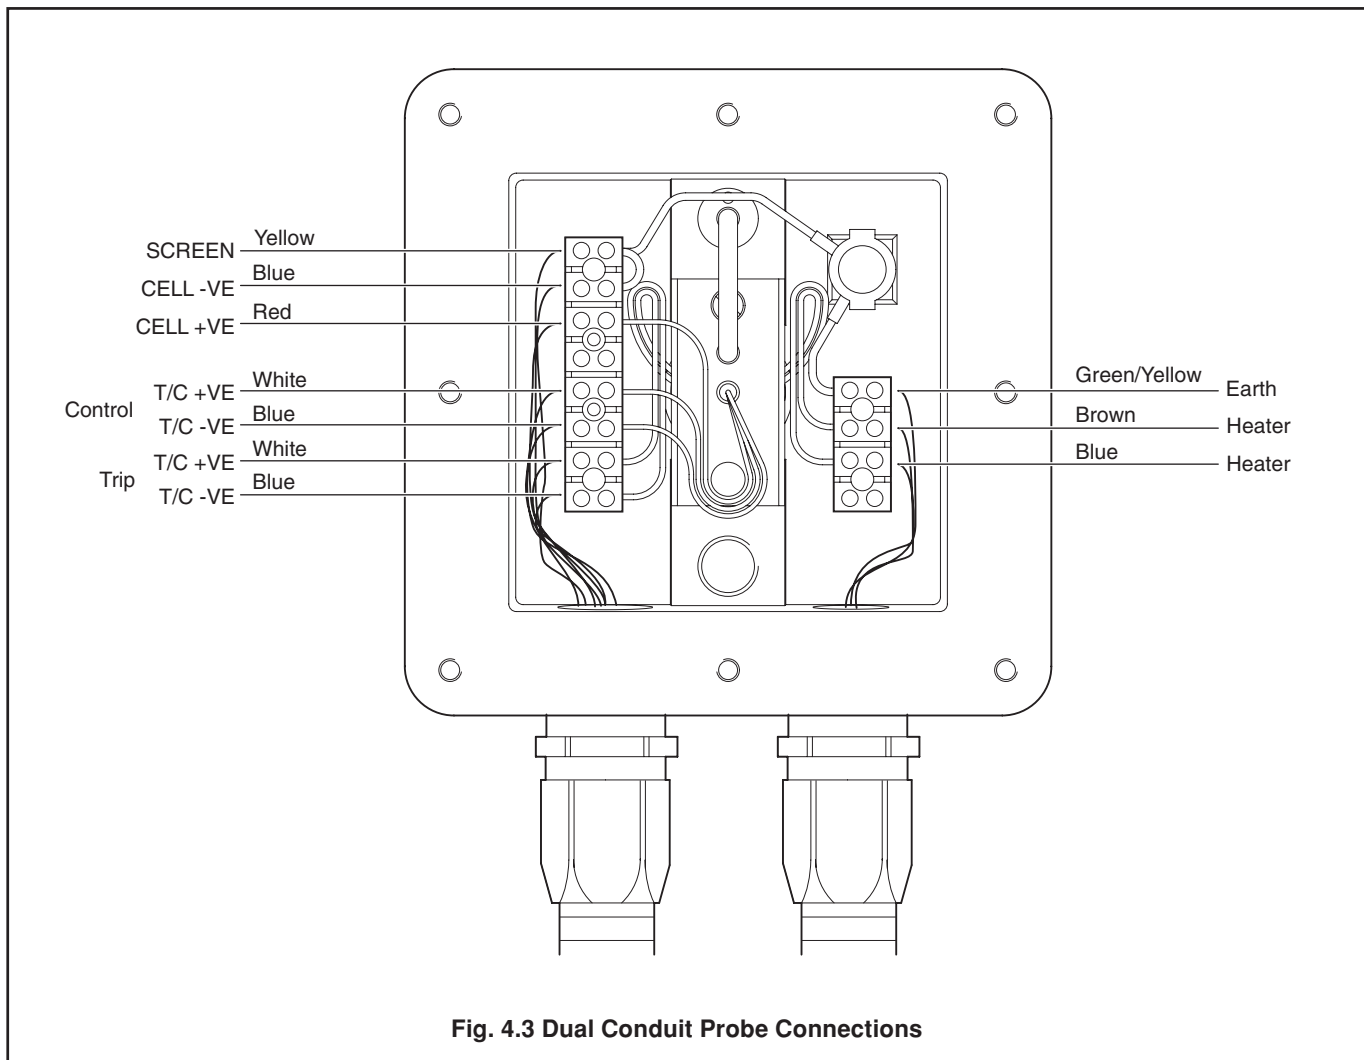
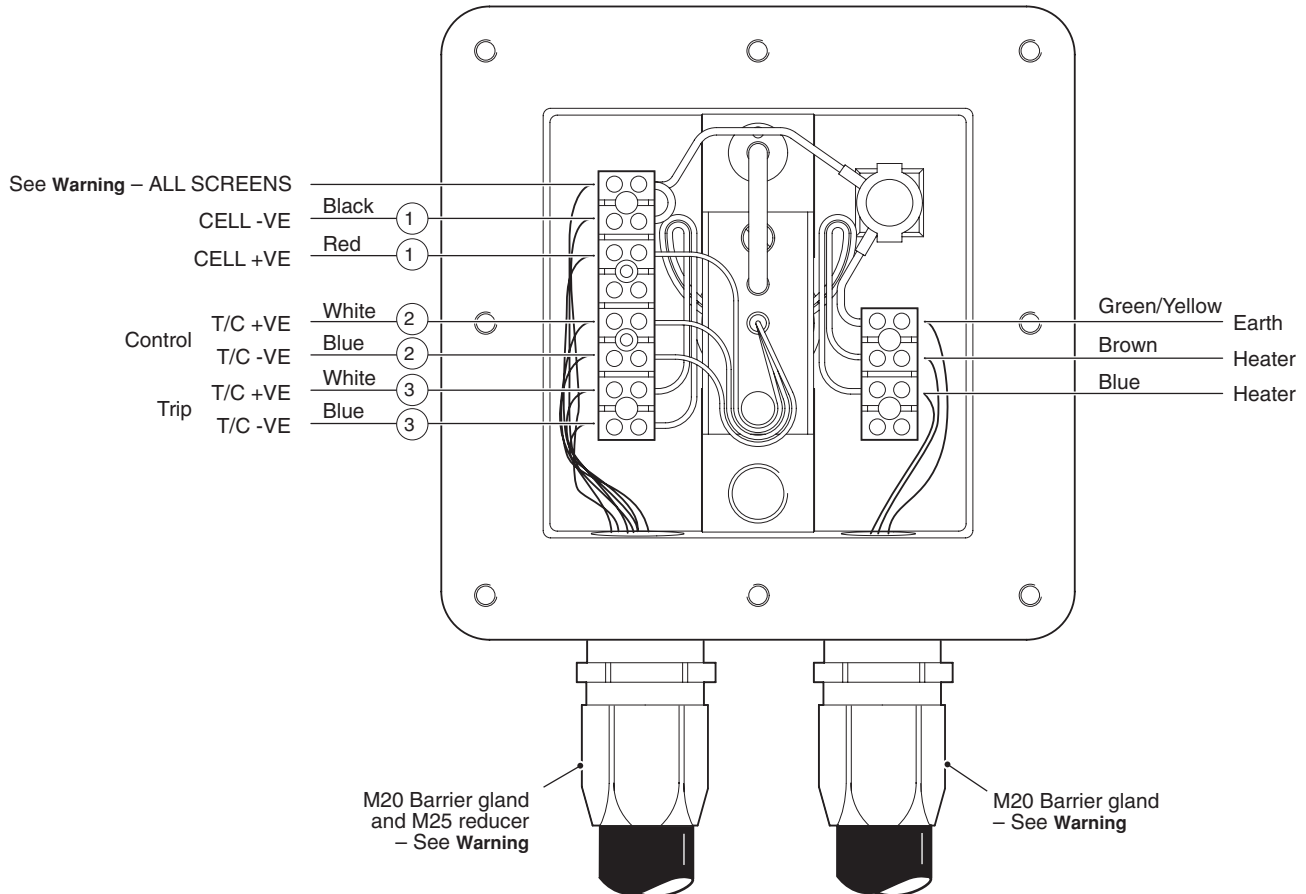

Fig. 4.3 Dual Conduit Probe Connections
Fig. 4.4 Dual Cable Probe Connections
When making connections, ensure that the cables are routed correctly as shown in Fig. 4.2 (single conduit), Fig. 4.3 (dual conduit) or Fig. 4.4 (dual cable).
4.2.3 Dual Conduit Probe Connections – Fig. 4.3
### 4.2.4 Dual Cable Probe Connections – Fig. 4.4